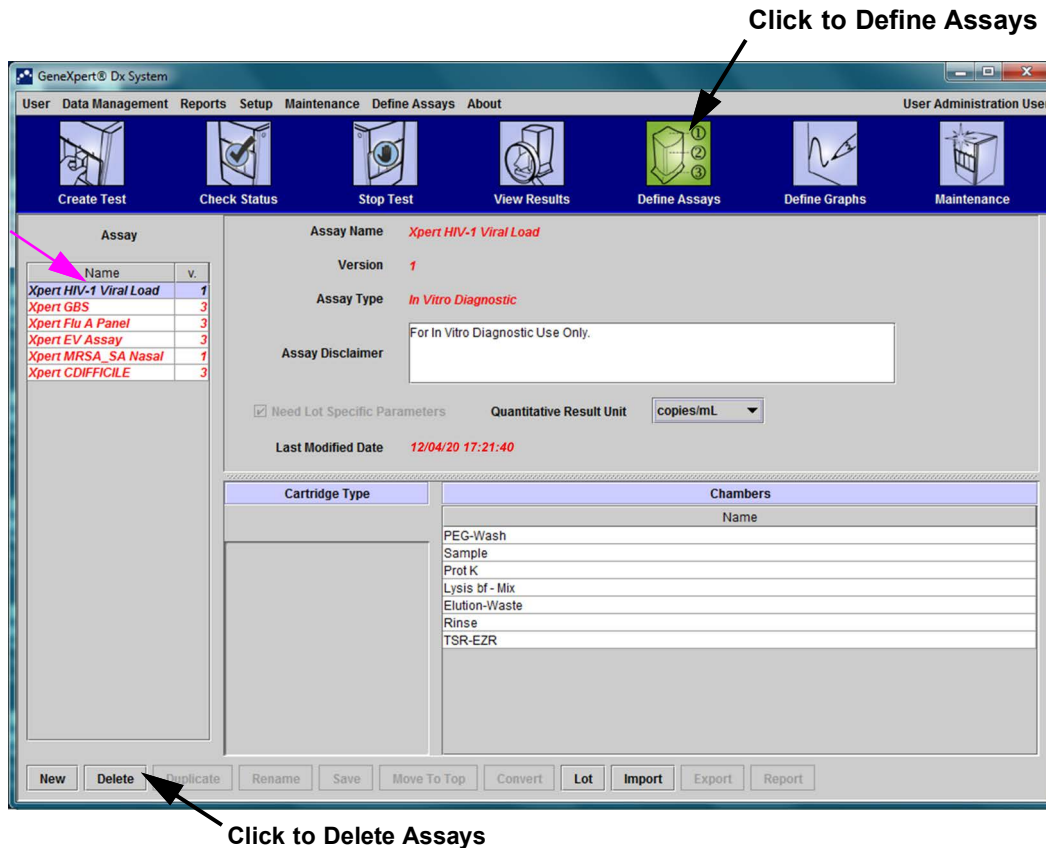
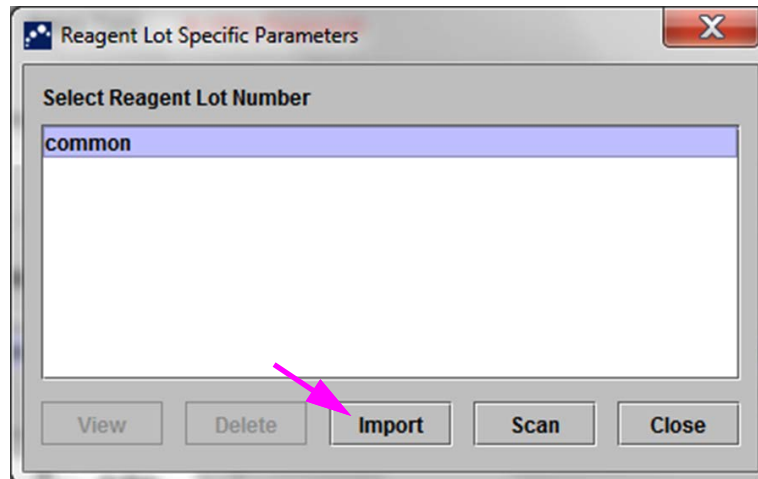

Figure 2-72. GeneXpert Dx System—Define Assays Window (Administrator User View)
Figure 2-74. Reagent Lot Specific Parameters Dialog Box
1. In the GeneXpert Dx System window, click **Define Assays** on the menu bar. The Define Assays window appears. Figure 2-74 shows the Define Assay window for the GeneXpert Dx system administrator. The window for Detail and Basic users has fewer functions (see Figure 2-72).
4. Navigate to the GeneXpert Systems folder. Locate and select the assay definition (.gxa/.nxa) file, and then click **Import**. The new assay name and version number appear in the Assay list (on the left side of the window) and details about the assay appear to the right of the list. See Figure 2-72.
After importing a quantitative assay, the Quantitative Result Unit can be changed. See Figure 2-74.
1. To delete an assay definition file, in the Define Assays window (see Figure 2-74), select the assay name in the Assay list (on the left side of the window), and then click **Delete**. A confirmation message appears.